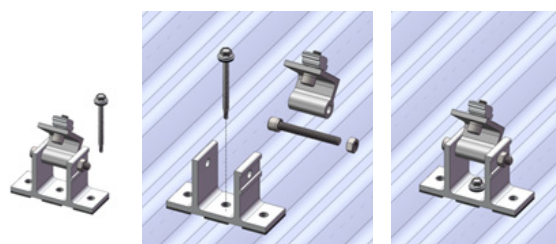

Figure 2
2. Single screw shall be installed through central hole only of front leg (as shown in Figure 2).